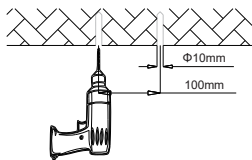

Figure 3
- Step 1. Mark with a mark pen or sharp tool on the mounting surface and drill. (Figure 3)